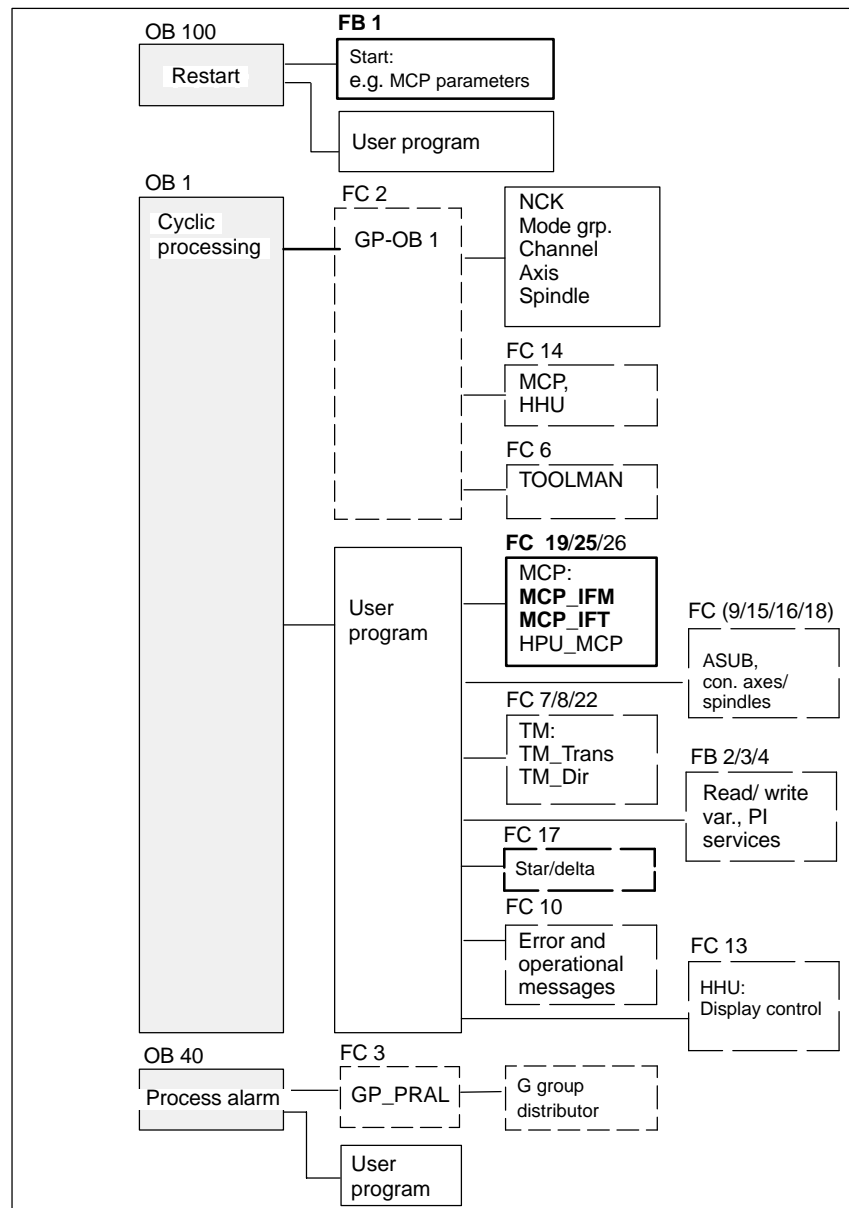

Fig. 5-6 Structure of PLC program
The user (machine manufacturer) must call the relevant part of the basic program in the OBs 1, 40 and 100, as shown in Fig. 5-6.
4. Insert block FC 19 or FC 25 into the cyclic part of the PLC program (see Fig. 5-6).